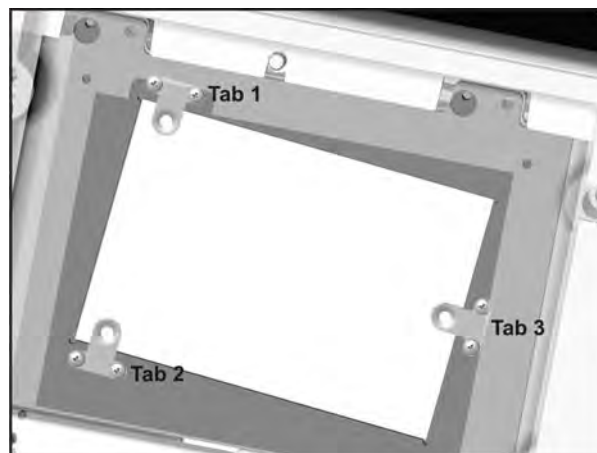

Figure 5-23 Fold Mirror Tabs
2. Remove one, 2.5mm screw from each of the three tabs. **(Figure 5-23)**